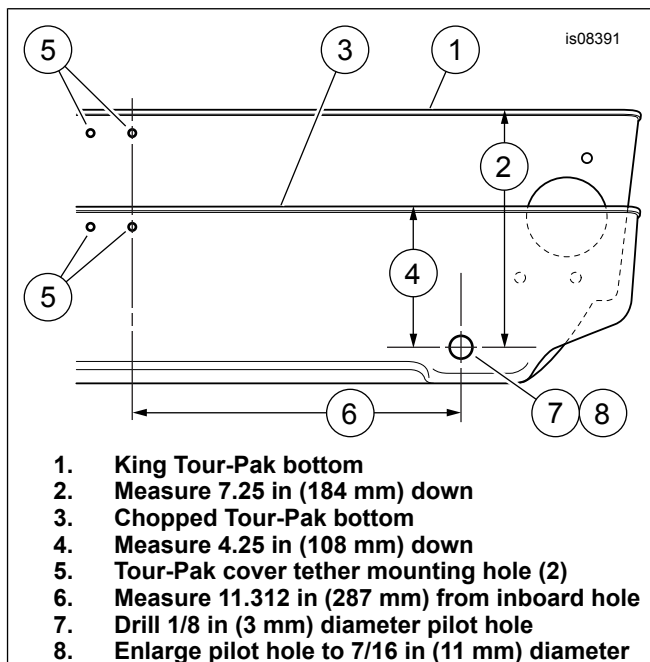

Figure 1. Drill Hole in Front Left Lower Tour-Pak Wall
1. See Figure 1. Lay strips of masking tape on the outside of the Tour-Pak front wall, in the approximate area of the required wiring hole. Carefully measure and mark the hole location as shown.